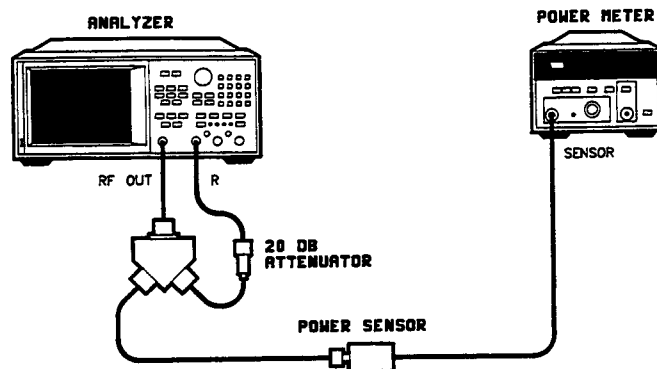

Figure 3. Power Hole Test Setup
12. Connect the equipment as shown in Figure 3.